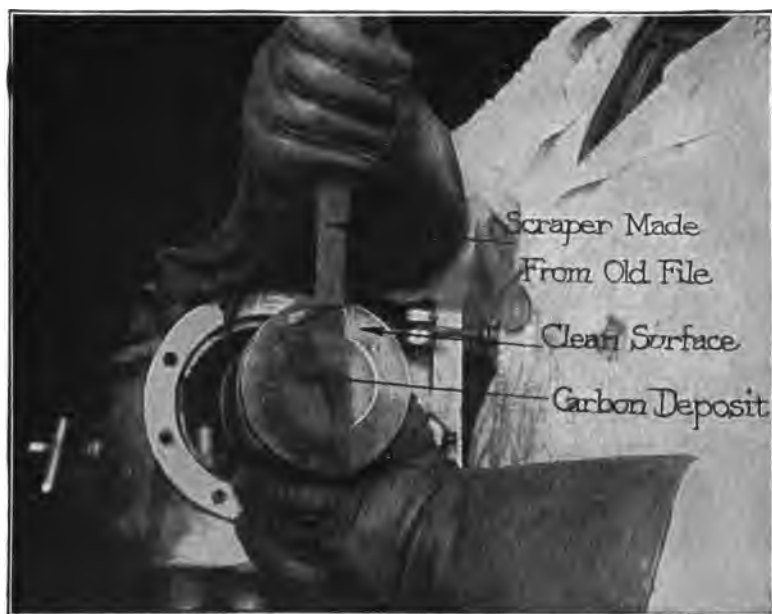

Fig. 3. Removing Carbon with File
*Removal of Carbon.* When the offending member has once been brought out so it can be handled, the removal of the carbon can be accomplished in a few minutes. As shown in Fig. 3, the scraper is made from an old file, flattened out at the end, and ground down so as to present one sharp edge. Every owner should accumulate from five to a dozen shapes and sizes of scrapers for various work, including a flexible one with which to reach into corners, etc. A flat piston head like that shown can be scraped off with any knife or chisel, but a special tool is better. The carbon is brittle and comes off readily, after which the surface should be filed or rubbed over with emery and oil to make it smooth, in order to delay the formation of a second coat. This is true of carbon in other places, but usually it is impossible to smooth the surface, in which case the process must stop when the part is scraped clean.